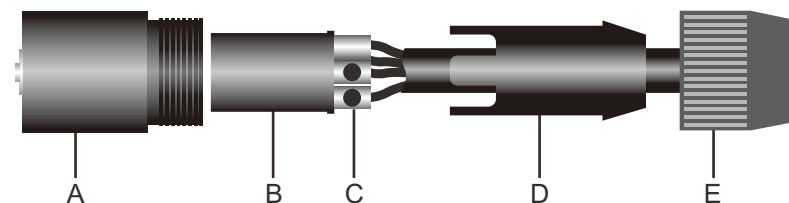

figure 8
2. Slide the wire tensioner (D) and the speakon coupler (E) through the cable end. See Figure 8.